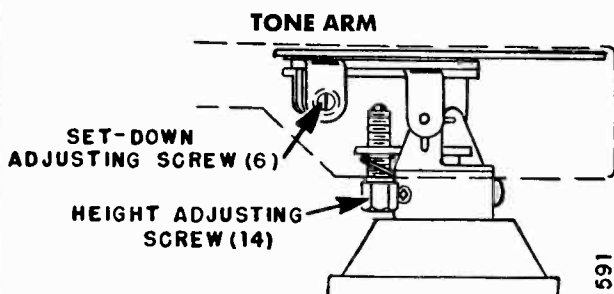

Figure 5. Set-Down and Height Adjustments.
Adjustment of the set-down point, is made by adjusting the set-down adjusting screw (6). See Figure 5. The tone arm will automatically set-down properly on 7-inch or 12-inch records if the set-down adjustment is made properly on a 10-inch record. The set-down adjusting screw is accessible through the hole in the right side of the tone arm. Turning this screw in moves the set-down point of the tone arm closer to the centerpost, and turning this screw out moves it away from the centerpost. Make this adjustment as follows:
This record changer is so designed that the tone arm will clear the bottom record of a stack to be played if the needle is  $\frac{1}{4}$ " above the changer pan when the changer is not in change cycle and  $1\frac{3}{8}$ " above the turntable during change cycle. See Figure 6. With proper tone arm height setting, the tone arm will lift high enough during change cycle to clear a complete stack of records of any type on the turntable. This stack may consist of as many records as specified on page 1. Make this adjustment by placing the size selector knob in the "10" or "12" inch position, check the distance between the needle and the changer pan with the changer out of change cycle. If the needle is more than  $\frac{1}{4}$ " above the pan, turn the lift adjusting screw (14, Figure 5) counterclockwise; if less, turn clockwise.